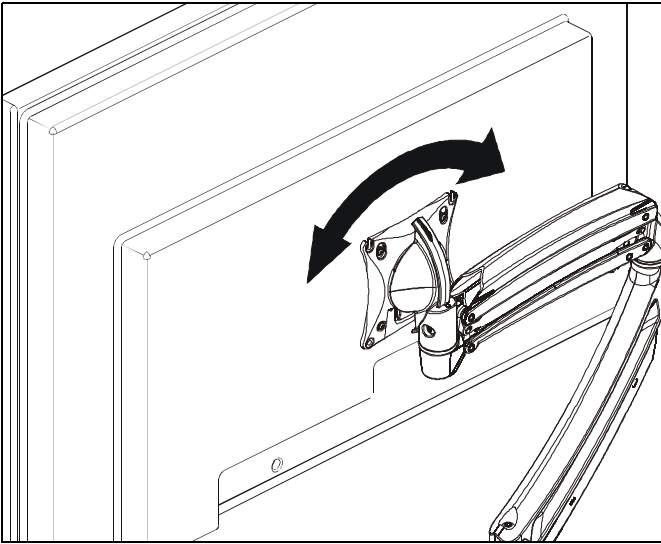

Figure 16
1. The monitor may be adjusted 90 degrees in either direction in order to provide a portrait view of the monitor. (See Figure 16)